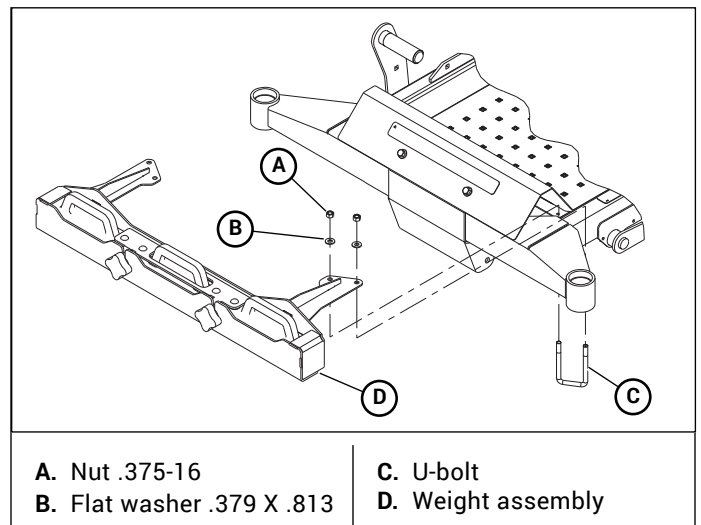

Figure 3-14
5. Attach the weight assembly to the front of the mower using the u-bolts on both sides of the mower frame. Figure 3-14